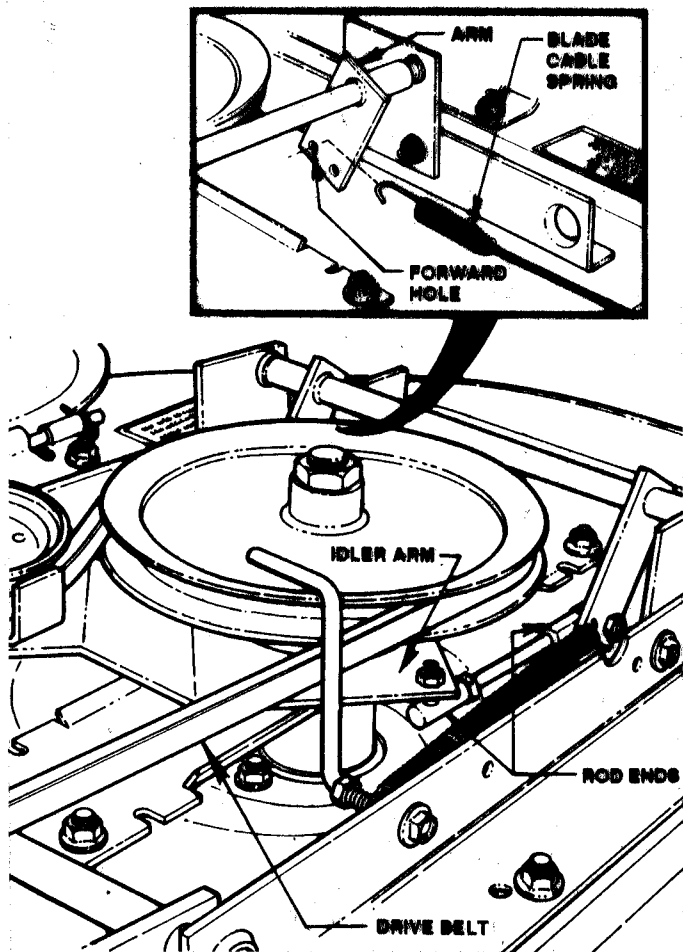

FIGURE 20
3. Remove BLADE CABLE spring from hole in BRAKE ARM. Reattach spring in next hole forward. See Figure 20. (Continued on next Page)
WHEN INSTALLING BLADE CABLE SPRING, MAKE SURE SPRING IS ATTACHED IN FORWARD HOLE OF ARM (REFER TO FIGURE 20).